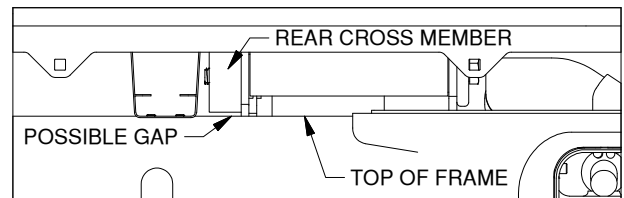

Figure B7: View looking into passenger side wheel well.
5. **Install frame spacers (if needed).** With the center section tightly pulled up against the bed of the truck with the lifting device, check for any gaps larger than 1/16" between the top of the frame and the bottom of the cross members, see Figure B7. If a gap is present, place a frame spacer under each end of the cross members, as shown in Figure B8. If a lifting device was not used, look for a gap between the bottom of the bed and the top of the center section. If no gaps are found, you may discard the frame spacers and proceed with the installation without them.